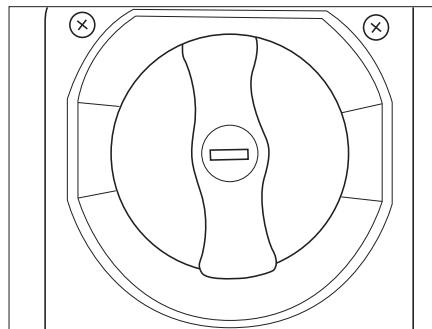

Fig. 72 Fresh water tank filler opening
- Fill the fresh water tank via the filler opening by means of a suitable filling hose or canister (Fig. 72).